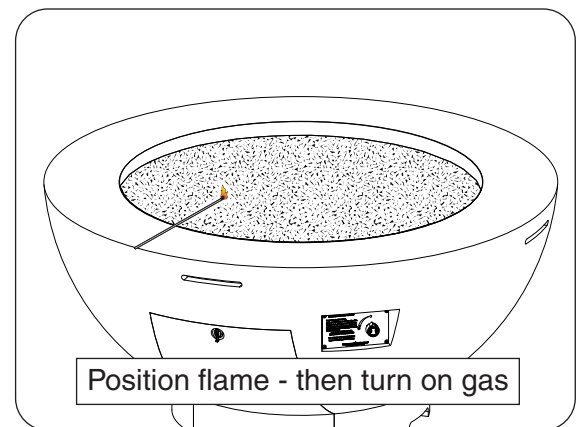

Fig. 41-1
3. Light a long-stem match or a long-necked butane lighter, and place the flame against the surface of the decorative media near the burner (Fig. 41-1).